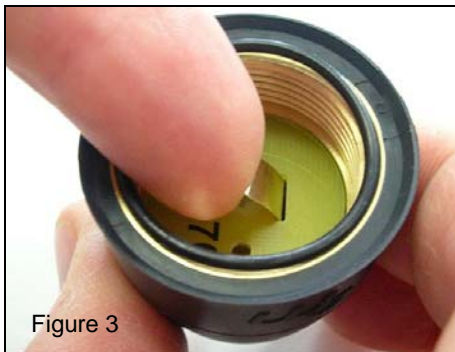

Figure 3
**4. Tuning and Installation (Figure 3):**
- a. Verify contact spring is completely extended. If necessary, adjust by pulling the contact outward. (Figure 3).